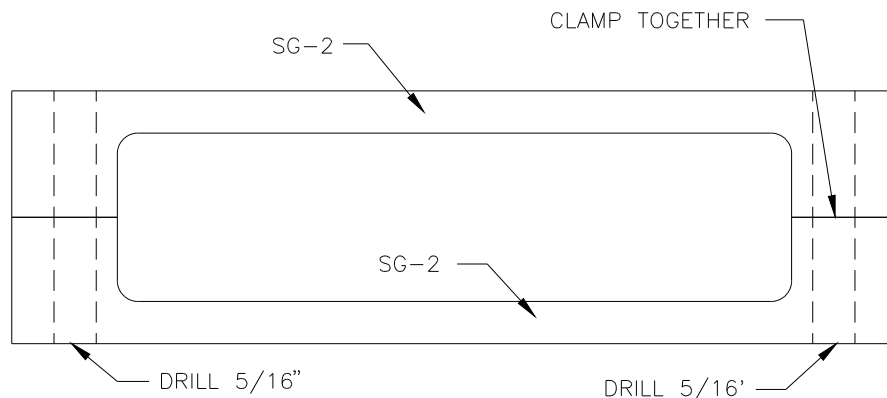

Figure 10.2.1
- 2) Clamp two sets of SG-2 Saddles together. Use 1/4" bolts for alignment while clamping. Remove the 1/4" bolts and drill the holes out to 5/16". Unclamp and debur. Figure 10.2.1.